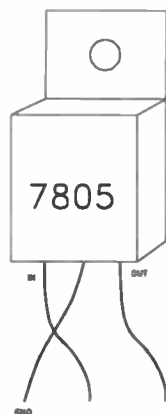

Figure 6-3. Bend the leads of the 7805 voltage regulator IC as shown.
Step 4. Bend the leads of a 7805 voltage regulator IC, as shown in Figure 6-3, on the next page. Bend the center (ground) lead toward the front (marked side) of the IC, and bend the outer leads toward the back of the IC.